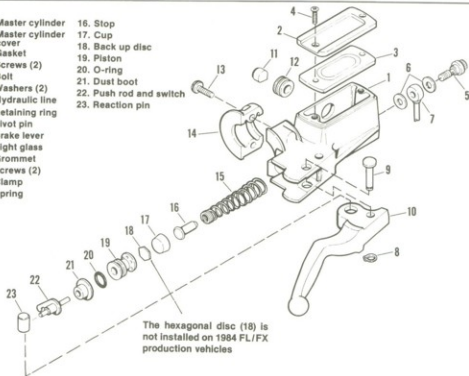

Figure 2-47. Front Master Cylinder — 1982 and Later
FRONT BRAKE MASTER CYLINDER (1982 AND LATER) (Figure 2-47)
5. Install master cylinder to handlebar by installing clamp (14) and screws (13). Tighten screws to 70-80 in-lbs torque.
6. See Figure 2-47. Install washer (6), bolt (5) and hydraulic brake line (7) into master cylinder. Tighten bolt to 20-25 ft-lbs torque.